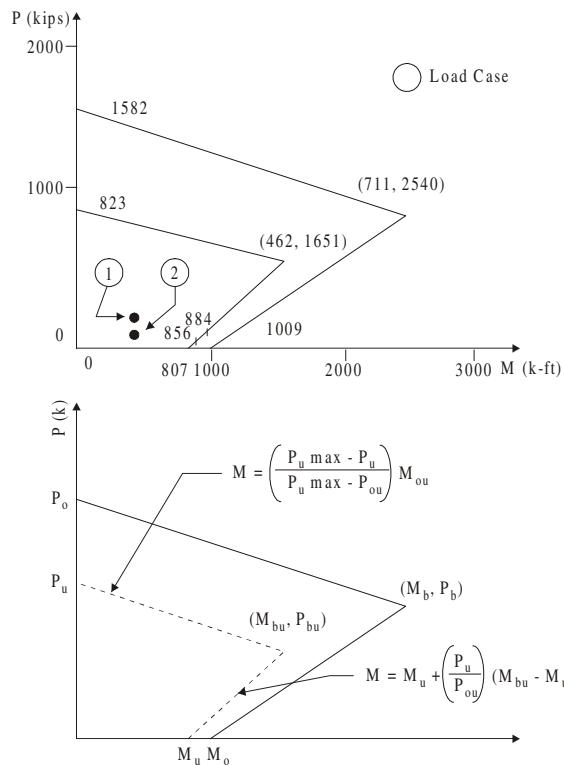

Figure 11-30. Interaction Diagram
C. Load Cases (See Figure 11-30)
From Figure 11-30:
From Figure 11-30: $P_u = 27 \text{ kips} < P_{bu} = 462$